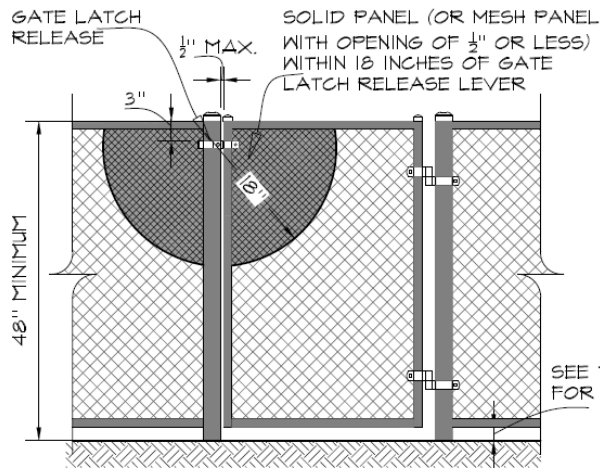

Figure 7a
2. The gate and barrier shall have no opening larger than ½ inch within 18 inches of the release mechanism. See Figures 7a &b.